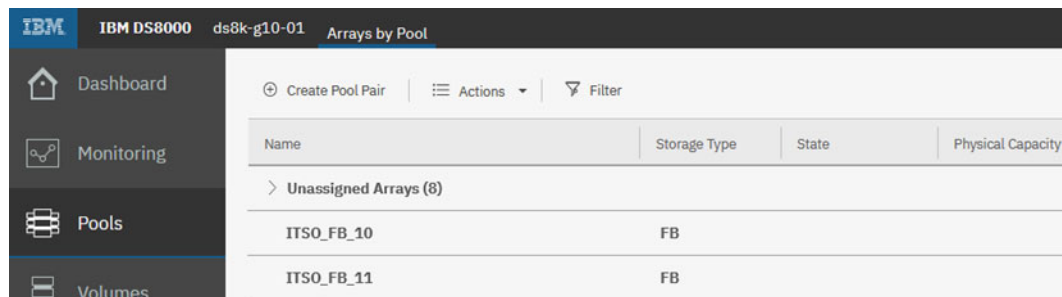

Figure 9-43 Creating an empty pool pair with no assigned arrays
1. Create a pool pair, as shown in Figure 9-43. By default, arrays are not automatically assigned to pool pairs.